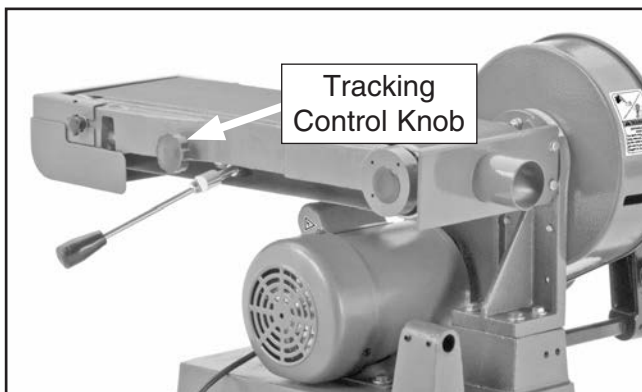

Figure 77. Tracking control knob.
4. Turn the sander **ON**, and using the tracking control knob (see **Figure 77**), carefully adjust the tracking in or out until the sanding belt is centered on the main roller (see **Figure 47, Page 28**).